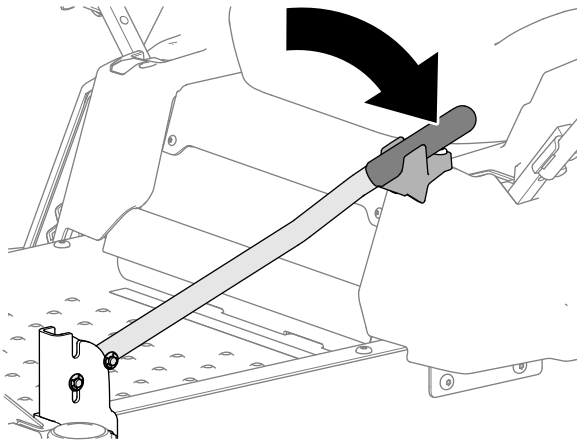

Figure 12
2. Fully rotate the assist handle as shown in Figure 12.